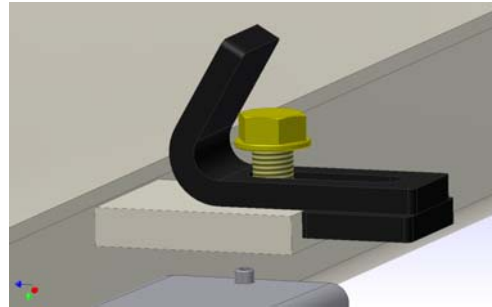

Figure 6
1. Retract the mounting clamps on the PIT BOSS and remove any frame adapters from the lift arms (see Figure 6).